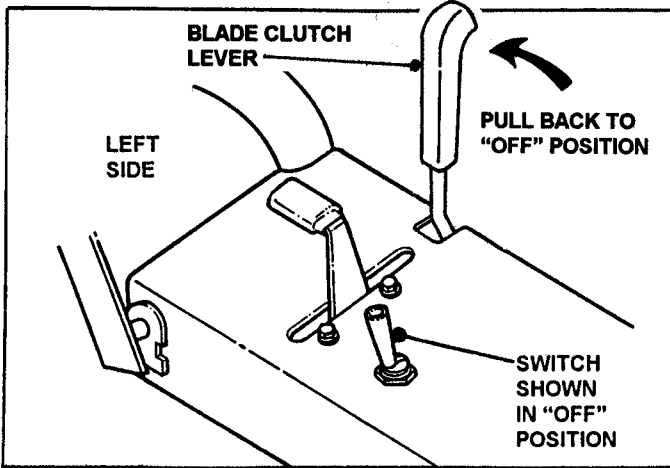

FIGURE 8
- 4b. **PISTOL GRIP** - Pull Blade Clutch Switch backward to the OFF position. See Figure 8.
- 10b **PISTOL GRIP** - SEE Figure 8.